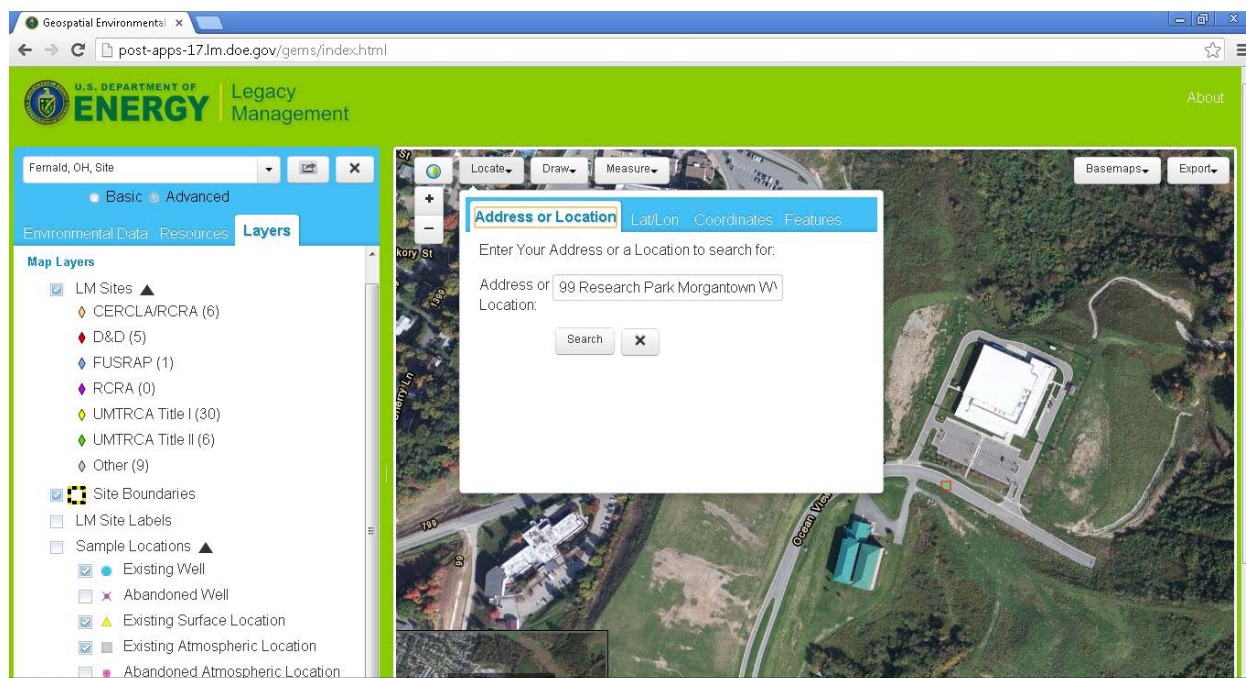

Fig. 6. Screenshot of the GEMS location of features dialogue box.
- Locate features (**Fig. 6**)